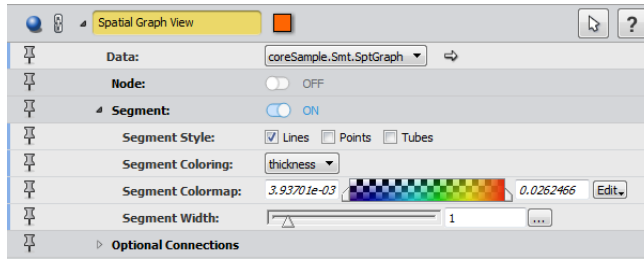

Figure 7.40: Properties of the *Spatial Graph View* module.
It is possible to modify the graph visualization by changing options in the *Spatial Graph View* module (Figure 7.40). For example, it is easy to show the segments as tubes whose diameter depends on the *thickness* defined by the distance map. This is achieved by selecting the checkbox `Tubes` on the **Segment style** port and changing **Tube scale** to `Thickness`. However, be warned that this can be slow depending on the complexity of the spatial graph and the graphics hardware used. In this tutorial, the segments will be displayed with a color depending on their thickness:
- In the port **Segment colormap**, use the Edit button to select `physics.icol`. Then adjust the data range using the Edit > Adjust range button, or by right-clicking on the colormap shade and selecting Adjust range. If necessary, use the Zoom > Range button. See Figure 7.40 to see the complete properties of the module.